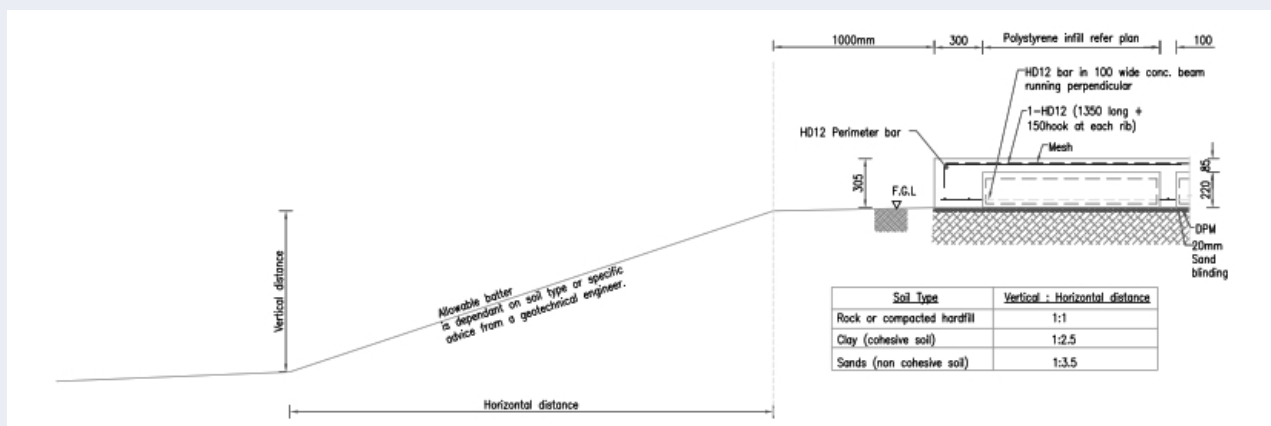

FIGURE 5 – Safe batters for raised building platform
**"Good ground" is defined by NZS3604 and items 1-4:**
4. Filled platform - Confirm Items 1-3 on the cut platform. Imported fill (well graded compacted hard fill or suitable fill material approved by a geotechnical engineer) less than 600mm deep placed as per NZS4431 and NZS3604. Cut and fill batters to be completed in accordance with NZS3604 and figure 5 and 6.